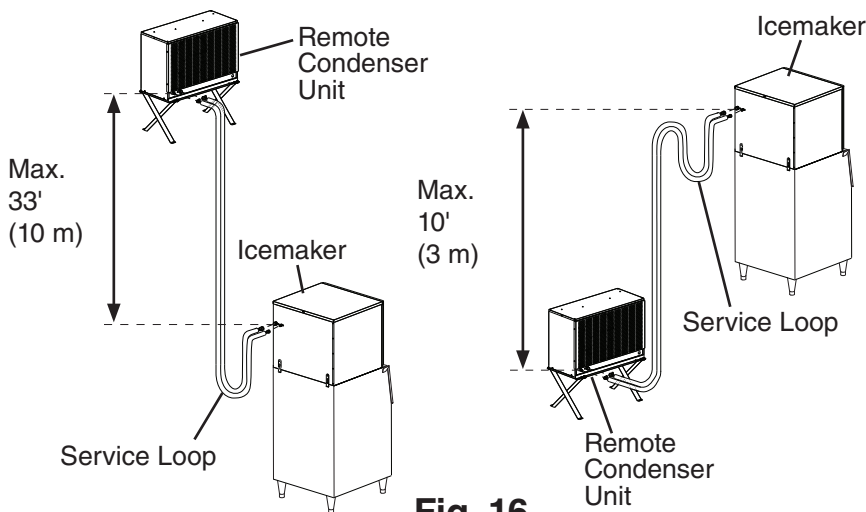

Fig. 16
- The maximum vertical distance between the remote condenser unit and the icemaker is 33' (10 m) above or 10' (3 m) below the icemaker. These distances are measured fitting to fitting. See Fig. 16.